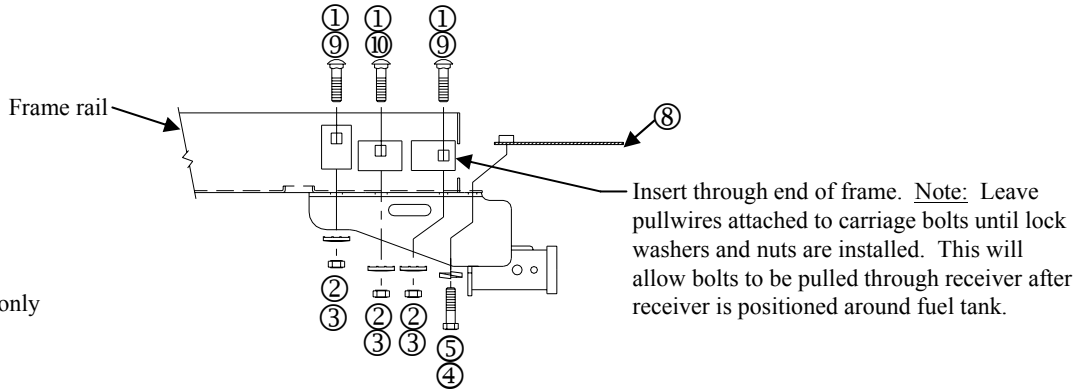

Figure 3
- Remove tow hook and tow hook bracket; Return component to vehicle owner. Mount driver's side of receiver using M12 bolts as shown in Figure 1. Mount passenger side of receiver as shown in Figure 3.
Option D – See Figure 3
- Using pullwire feed 1/4 X 1-1/2 X 2 blocks (Item 9 & 10) and carriage bolts through end of frame and into existing holes. Raise hitch into position and attach per Figure 3.